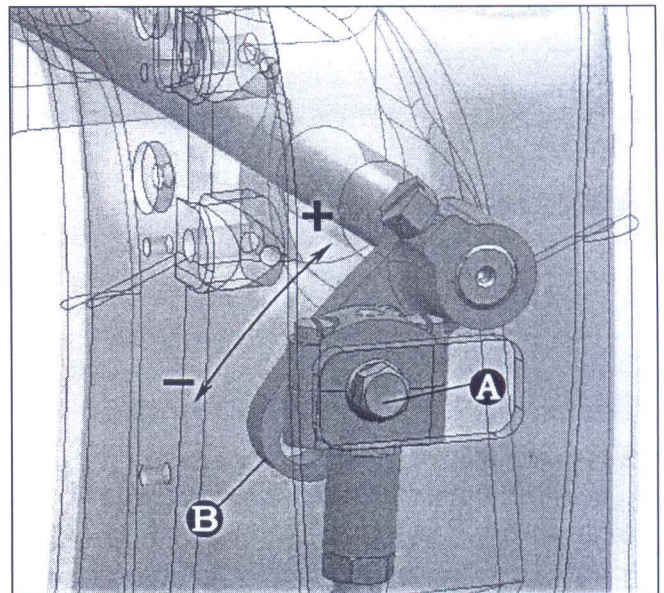

FIGURE 12
For matching the upper feed dog travel with the lower feed dog travel, loosen screw (A, Fig.12). Moving the ball link in the slot of rocker lever (B) to the front decreases the upper feed dog travel and moving it to the rear increases the travel. Retighten screw (A).